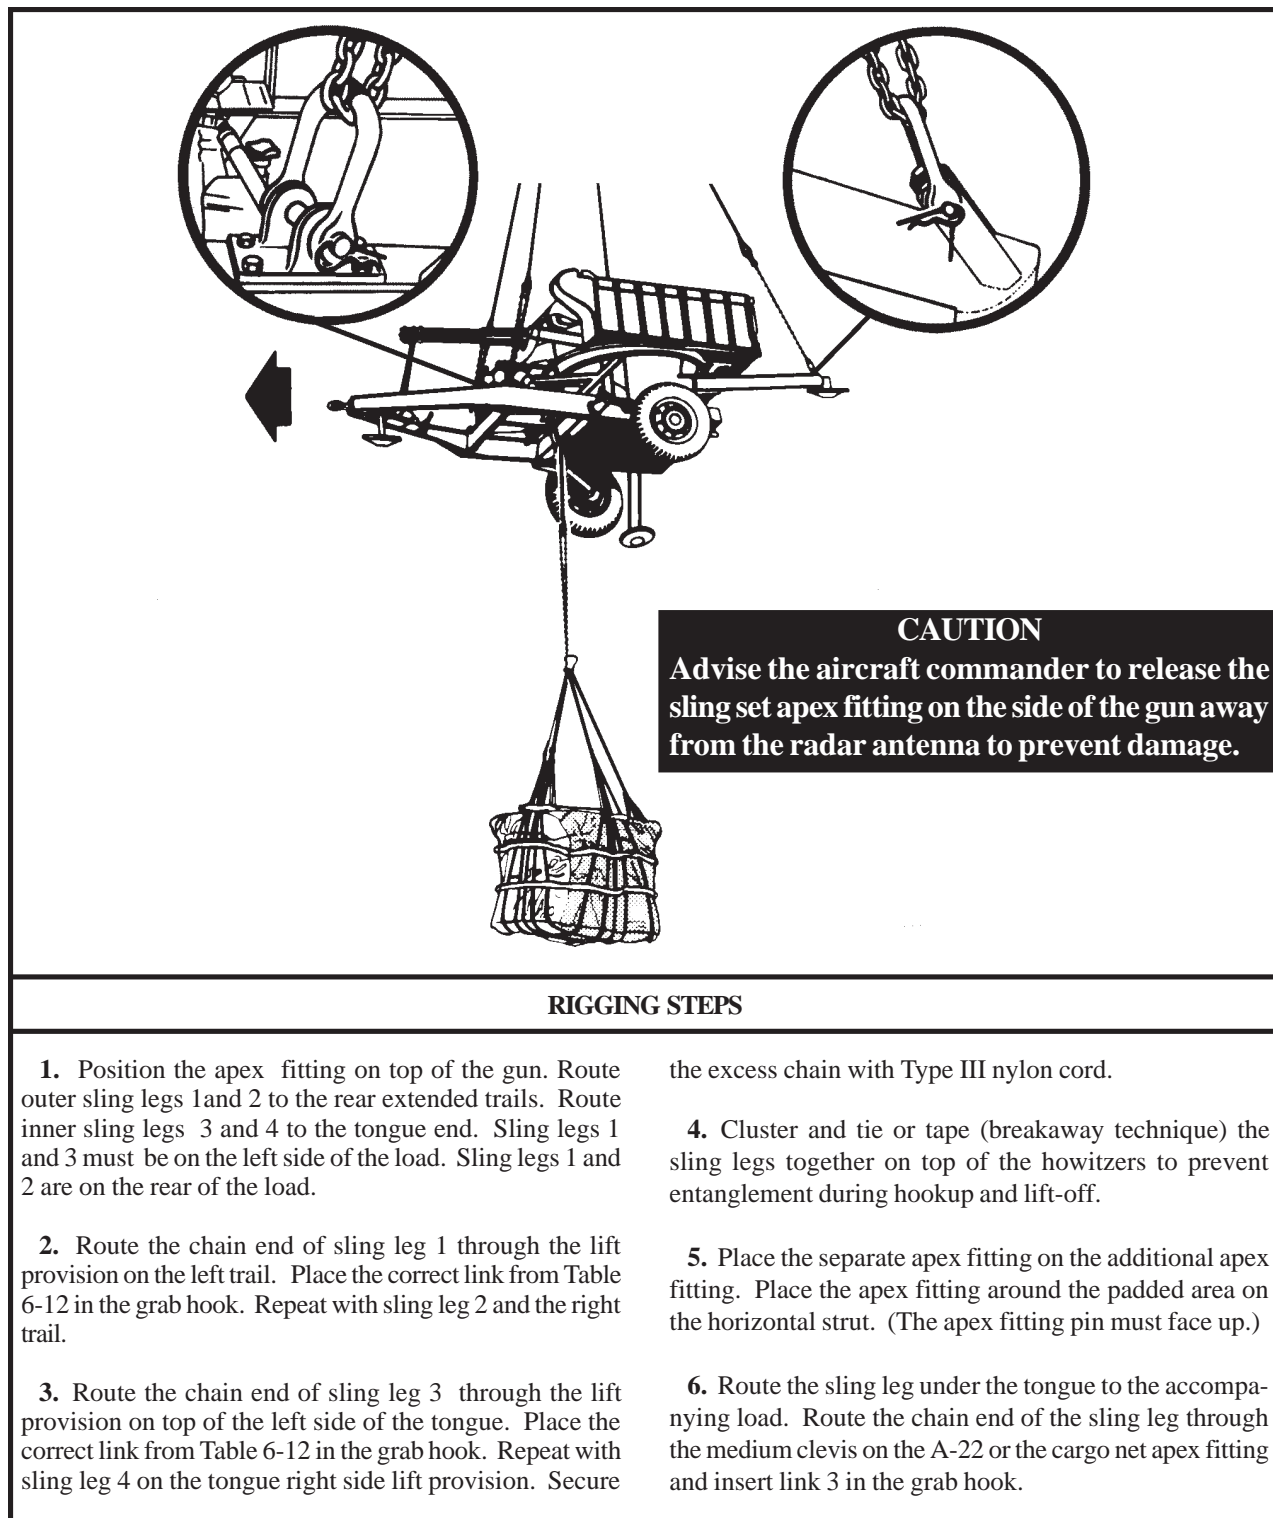

Figure 6-12. M167 20-MM AA Gun (Vulcan)
(2) **Rigging.** Rig the load according to the steps in Figure 6-12.
(4) **Derigging.** Derigging is the reverse of the preparation and rigging procedures in steps d (1) and d (2).